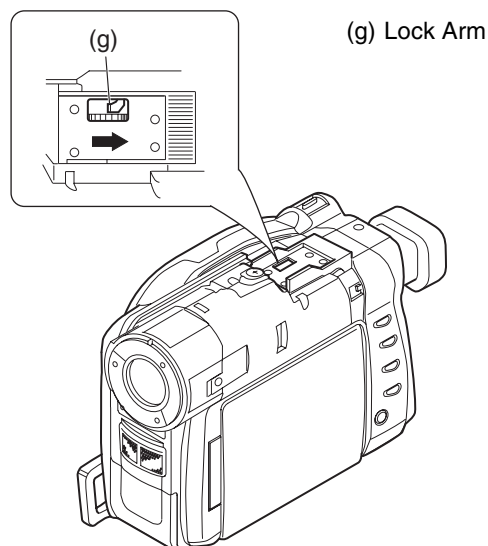

Fig. 4-8-2 How to Remove Disc
- 7) Insert a screwdriver, etc. into the hole in accessory shoe at the top of product, and move the lock arm (g) in the direction of the arrow to open the disc loading block. (See Fig. 4-8-2)